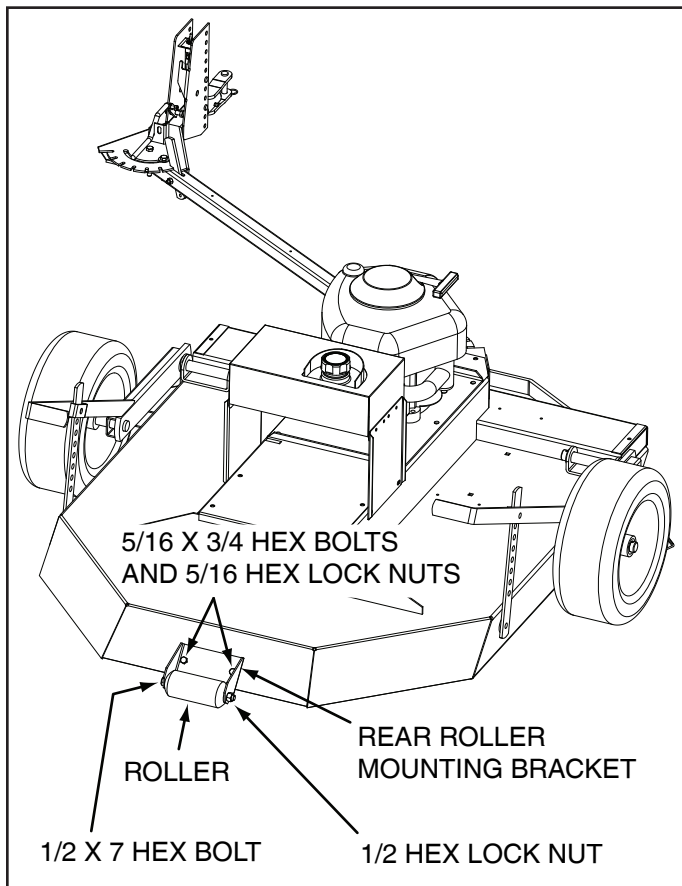

FIG. 3
- Install Rear Roller Mounting Bracket to rear of deck using two 5/16 x 3/4 Hex Bolts and two 5/16 Hex Nylock Nuts. (See Fig. 3.)